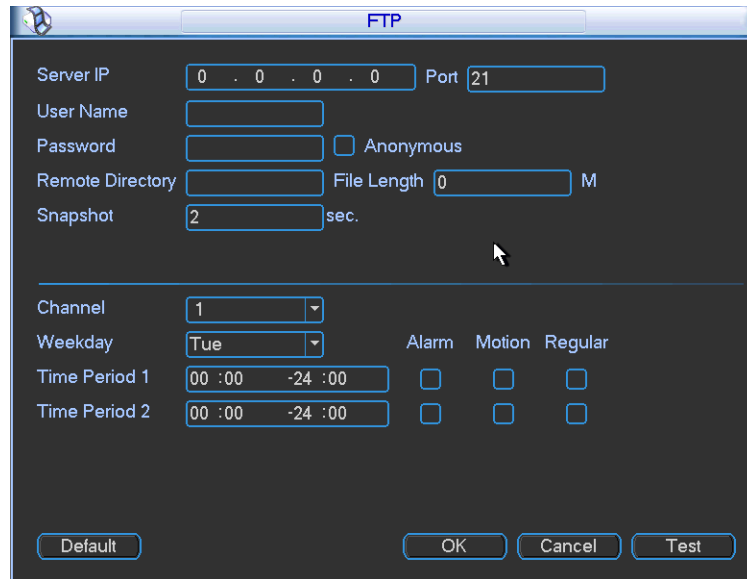

Figure 4-43
- In FTP (Main Menu->Network->Network Setting) interface, please input upload interval. See Figure 4-43.
- In FTP interface please input upload interval. See Figure 4-43.